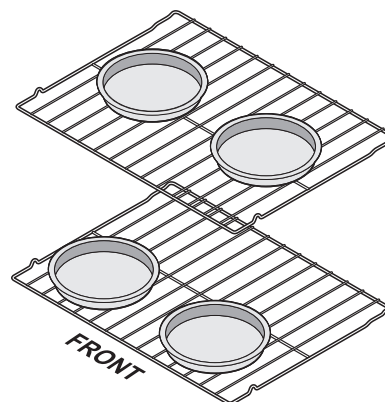

Figure 14: Suggested Pan Spacing for cakes
- Allow at least 2 inches (5 cm) space between the food items to ensure proper circulation. (Figure 14)